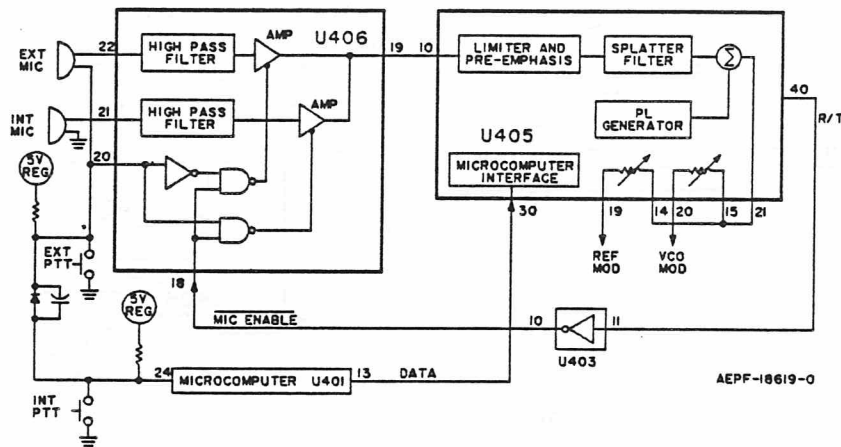

Figure 10. Transmitter Audio Circuitry
I. Transmitter Audio Circuitry (See Figure 10)